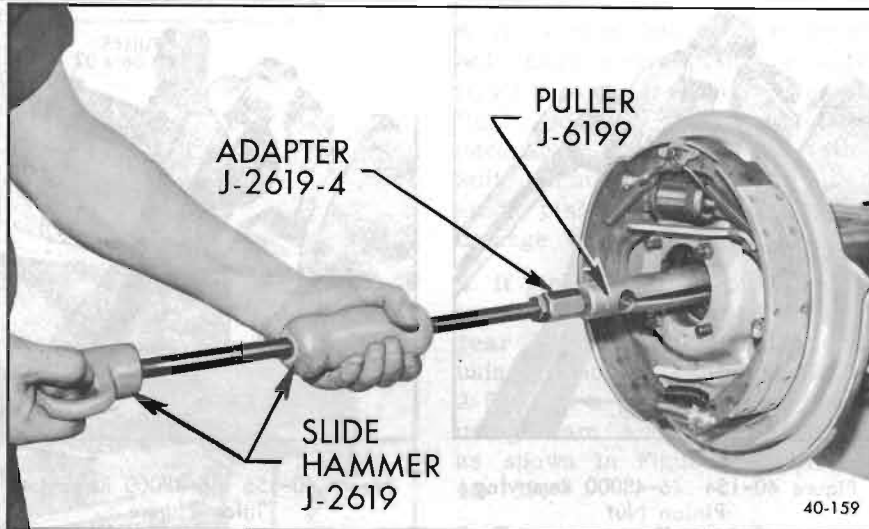

Figure 40-149—Removing Axle Shaft Seal
1. To remove oil seal, insert Puller J-6199 just through seal and expand. Pull seal with a slide hammer. See Figure 40-149.